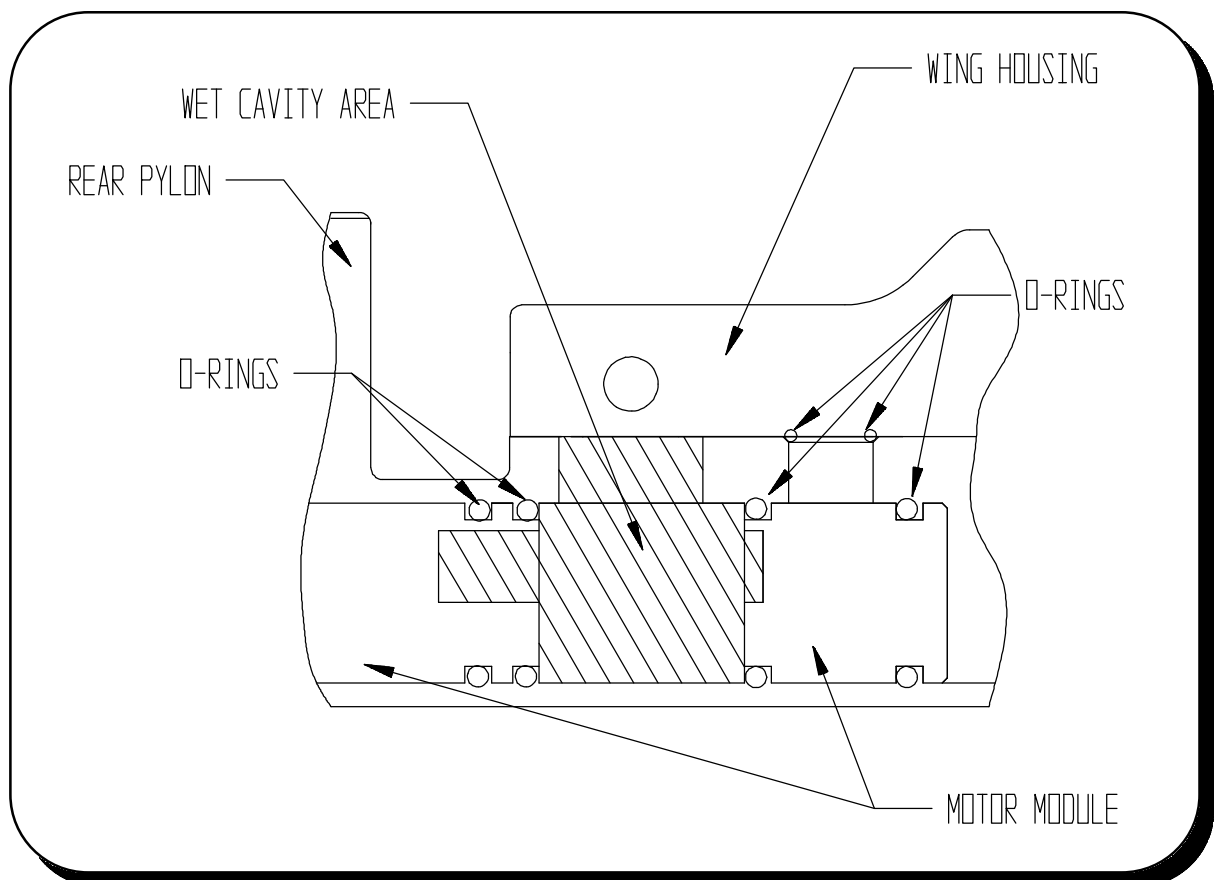

Figure 6.1.2 5000 wet cavity.
8. Remove the two (2) large Hex bolts retaining the wing module on the housing with a 5/16 Hex wrench.
9. Remove the four (4) Socket Head Cap Screws in the rear of the wing module with a 9/64 Hex wrench.
10. Turn the unit upside down and disengage the wing module from the housing by pulling down on the wing shaft and the front end of the module, keeping the module as horizontal as possible. A small amount of water will come out of the openings in the platform on the top of the orange housing (see Figure 6.1.2 for a diagram of the area of the bird that floods when submerged). Remove the gasket from around the wing lever that was sandwiched between the wing module and platform.